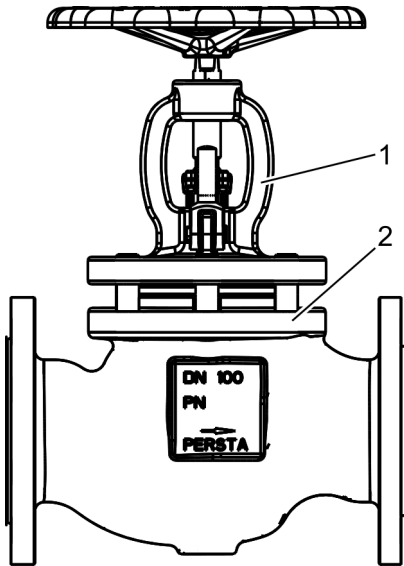

Fig. 28: Fitting the bonnet
18.▶ Fit the bonnet (Fig. 28/1) onto the stud bolts on the body (Fig. 28/2).